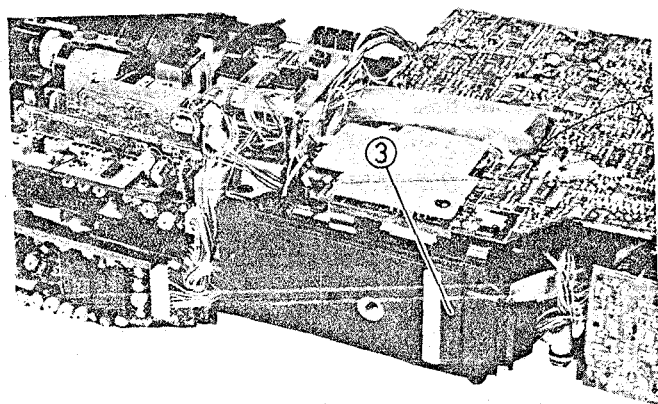

Fig. 2-35 Preamp Circuit Board Removal
3. Remove two (2) screws holding the camera section and VTR section. (See Figs. 2-35, 2-36)